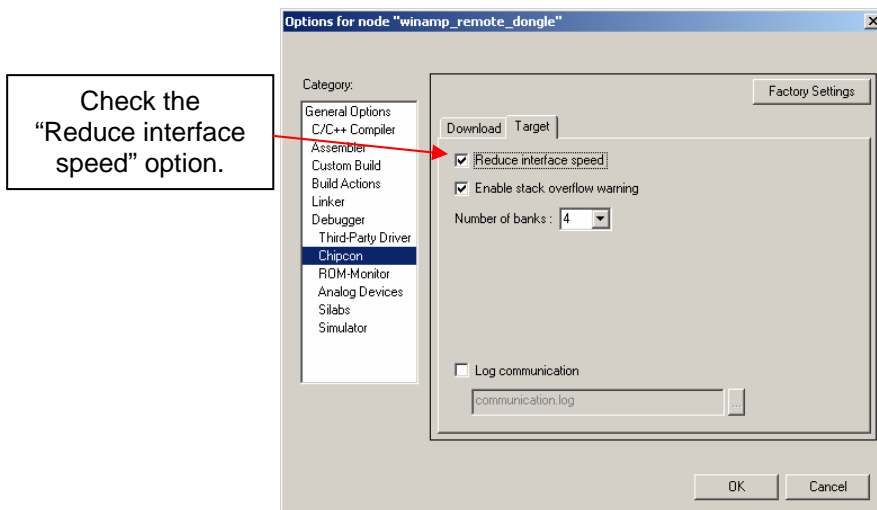

Figure 7: Reduce interface speed
- Check the “Reduce interface speed” option. (See Figure 7)